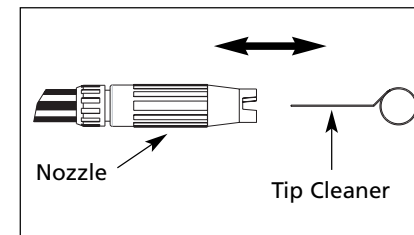

Figure 11
- Using the included tip cleaner, or an un-folded paper clip, insert wire into the nozzle hole and move back and forth until debris is dislodged (refer to Figure 11).